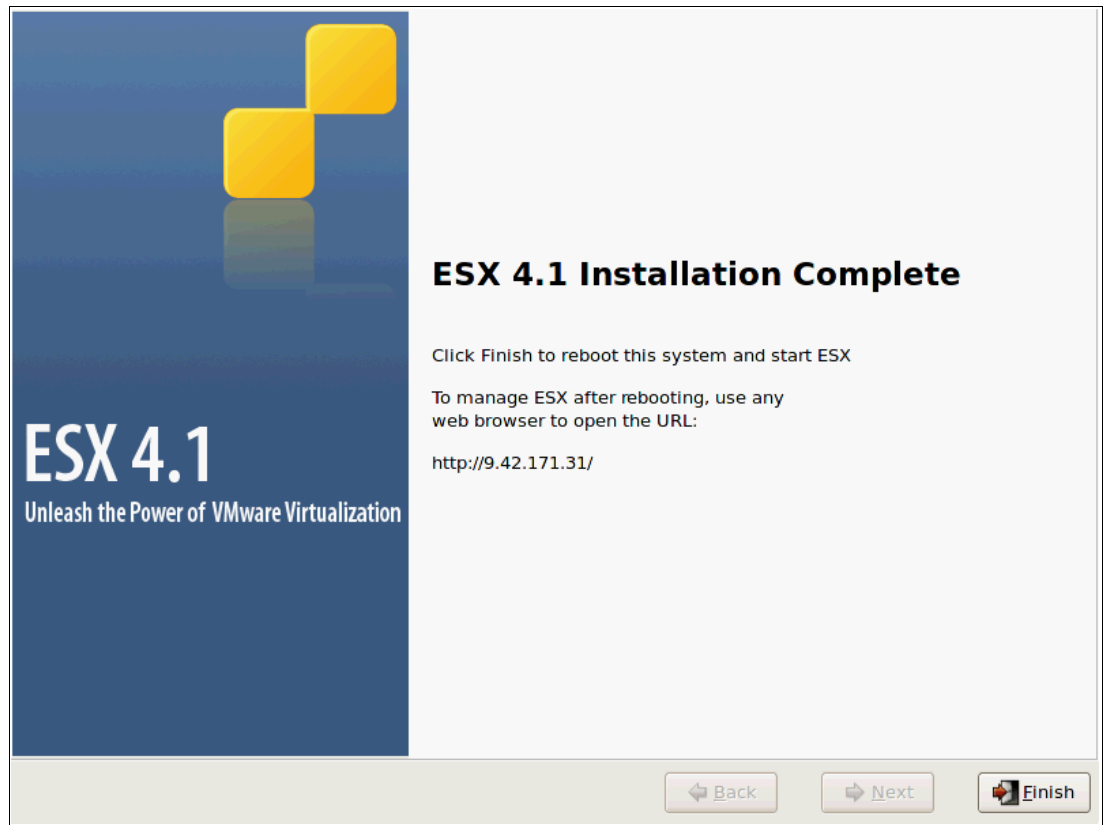

Figure 22-33 ESX Installation Completed
21. In the ESX 4.1 Installation Complete window (Figure 22-33), click **Finish**.